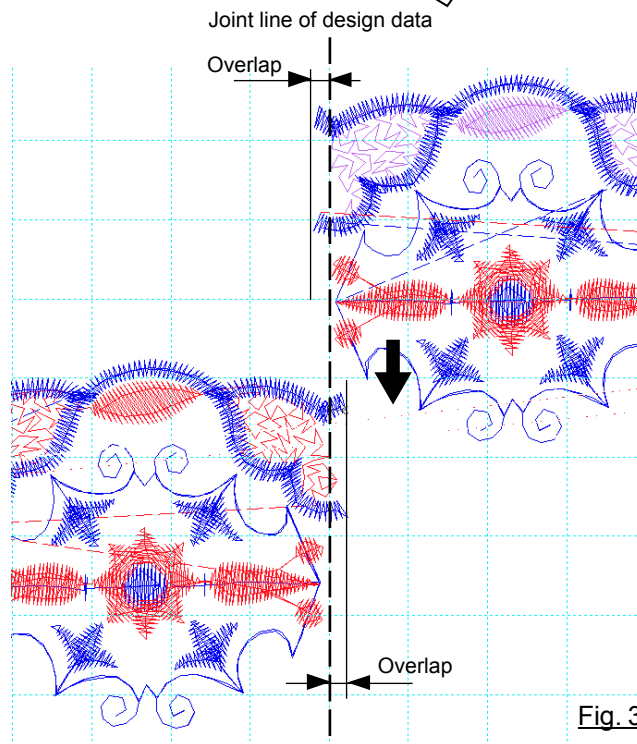

Fig. 3
- To avoid a gap at joint line of design data, design data should be created with overlap area. (within 4mm) (Fig. 3)
- For easy positioning of design data on machine, start point of design data should be center of embroidery area of X axis. (Fig. 3)